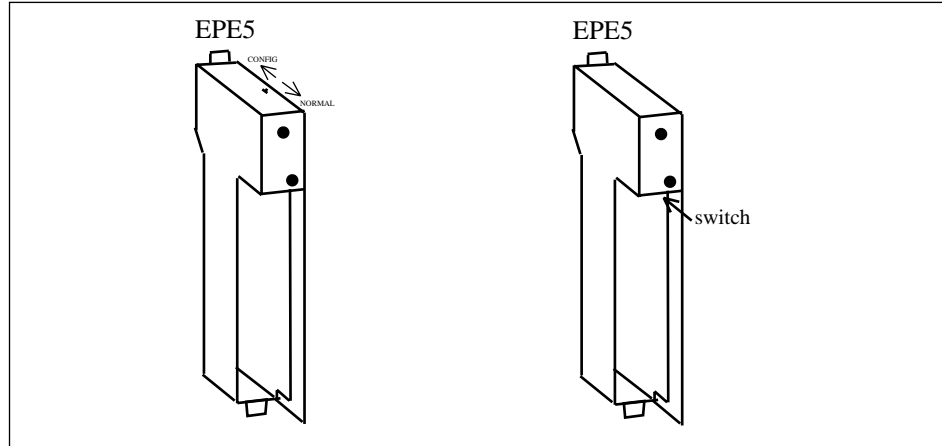

Figure 23-16 EPE5 Firmware Load Switch
- 3 Locate the CONFIG slide switch on the top of the EPE5. This is a small yellow handled slide switch either mounted on the top edge of the circuit board and is accessible through the vent slot in the top of the module enclosure (See Figure 23-16) or mounted just under the silver clip near the top of the edge connector. Move this switch to the CONFIG position (towards the front of the module where the lights are if the switch is on the top or towards the metal clip if the switch is on the back).